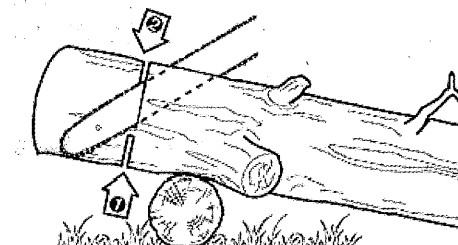

Fig. 38
2. When the log is supported on one end (Fig. 38), cut 1/3 the diameter from the underside (underbuck). Then make the finished cut by overbucking to meet the first cut.